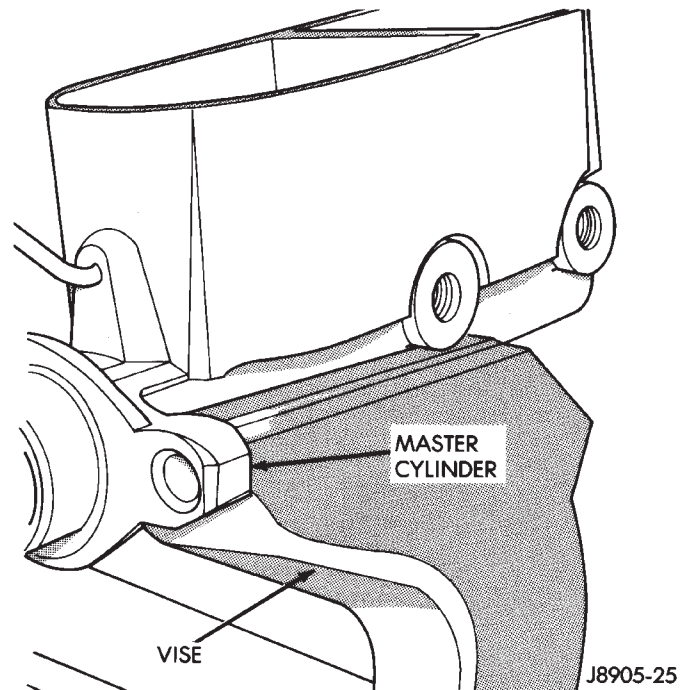

Fig. 1 Cylinder Mounted In Vise
- (1) Remove cylinder cover and drain fluid.
- (2) Examine cylinder cover seal. Discard seal if torn or distorted.
- (3) Clamp cylinder in vise (Fig. 1).